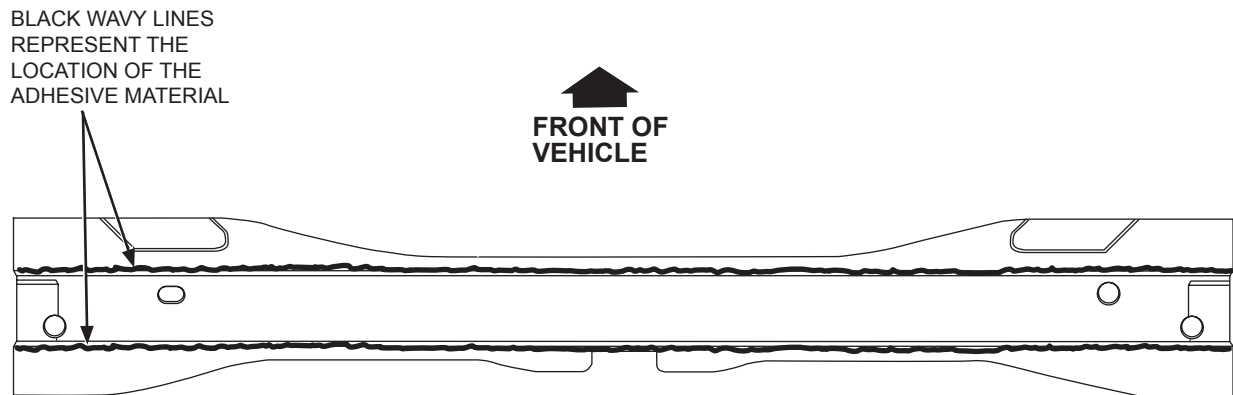

FIGURE 2
**NOTE:** The location of SPR and adhesive shown below are based on the original production drawings and should only be used as a guideline. (Refer to Figure 2).